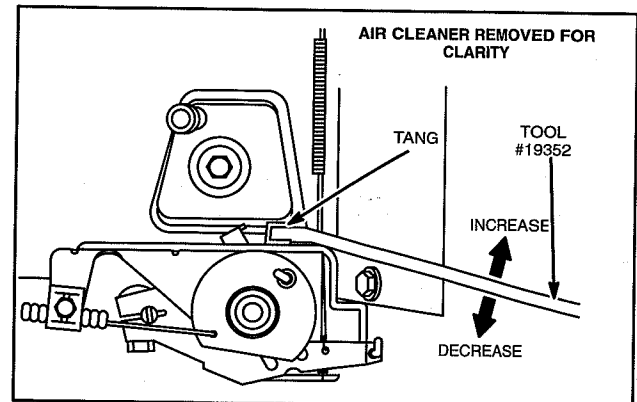

Fig. 31 – Adjusting Top No Load Speed
6. Bend tang with Tool #19352 to obtain desired Top No Load RPM, Fig. 31.